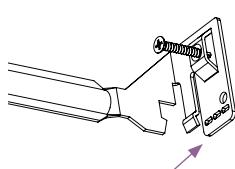

fig. 1 (optional)
- a. If ceiling thickness is 0.75 in (19.05 mm) or greater: Use pliers to break off the tabs at the end of both nailer bars (see fig. 1).